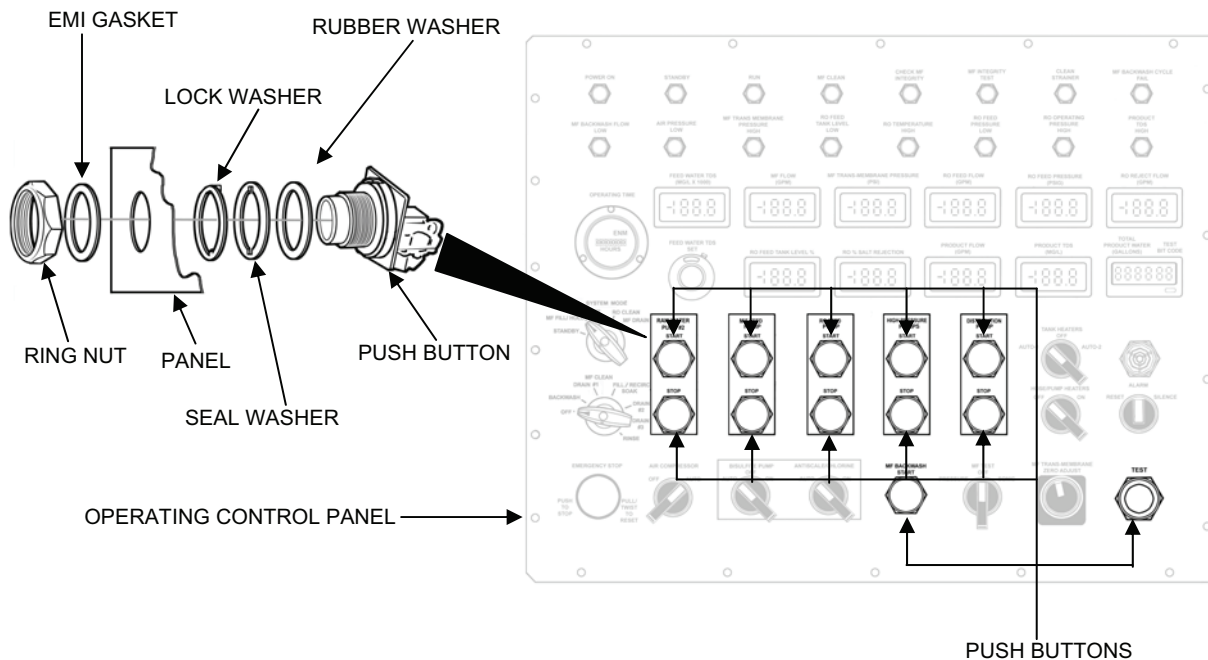

Figure 9. Push Button Replacement.
1. Remove a push button as follows (see Figure 9):